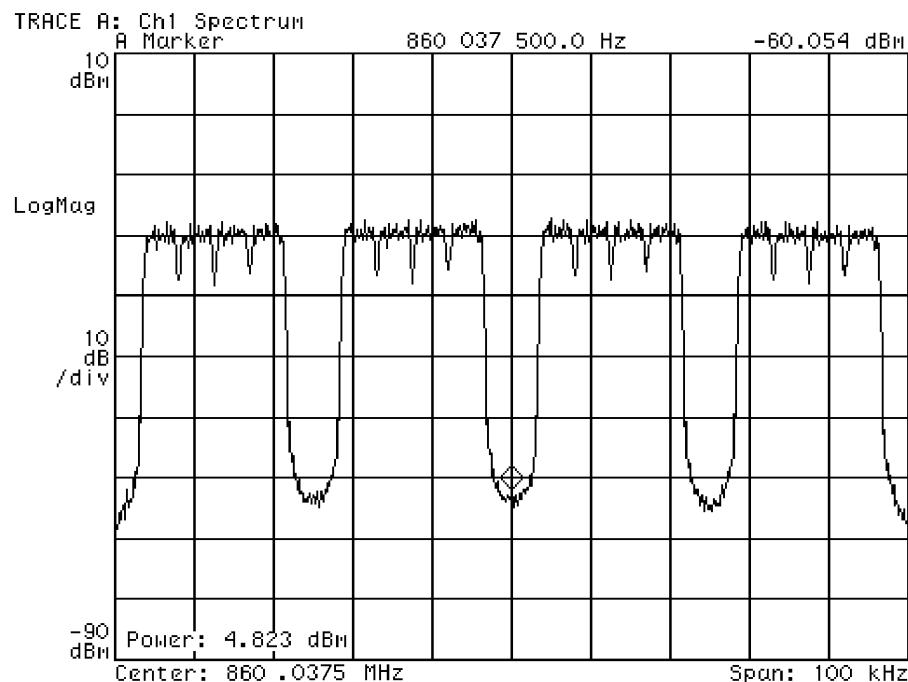
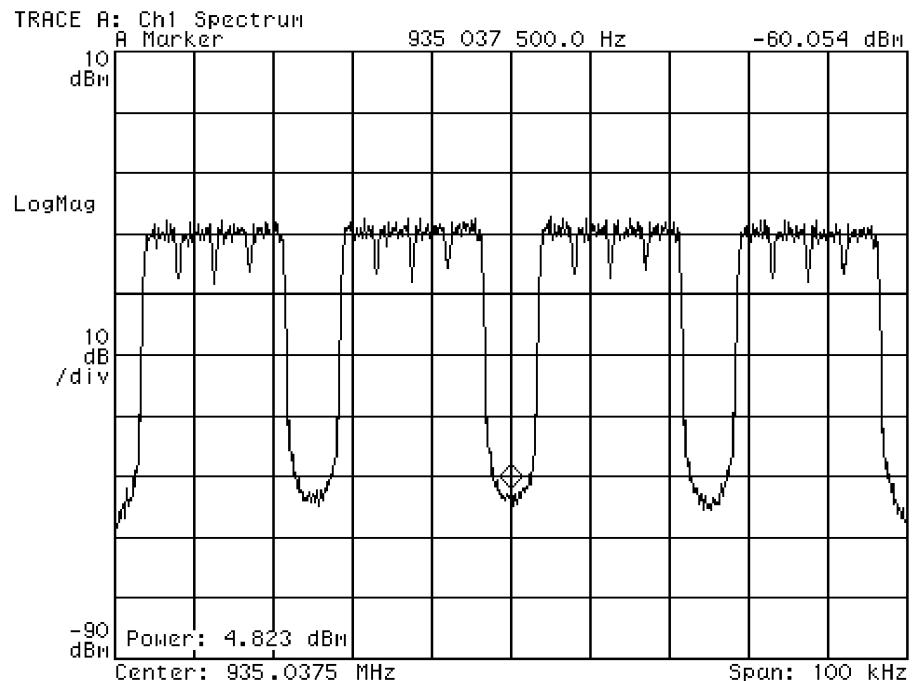

Figure 5 800 MHz Quad Carrier Spectrum
Figure 6 900 MHz Quad Carrier Spectrum
5. View the spectrum of the transmitted signal on the R2660 Communications Analyzer in the Spectrum Analyzer mode. Figure 5 and Figure 6 shows a sample of the 800MHz and 900MHz spectrum, respectively.